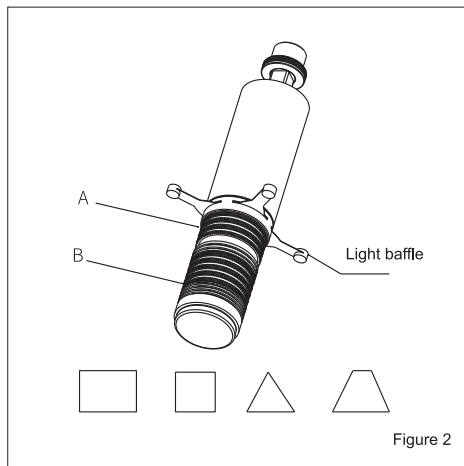

Figure 2
1. Rotate component A of the gobo light to achieve a clear spot or pattern (focusing). Rotating component B can change the size of the spot or pattern. After adjusting the size of the spot or pattern, the clarity may decrease, requiring rotation of component A to improve clarity, as shown in Figure 2.